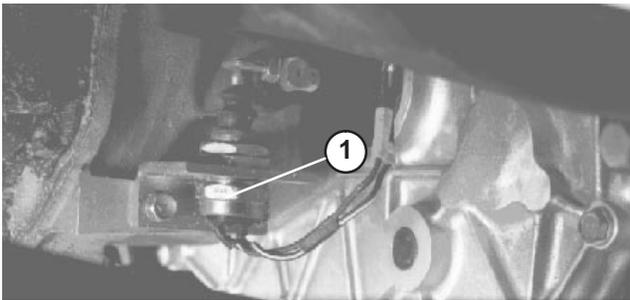

Figure 59
- Recheck clutch safety switch adjustment (Fig. 59). Engine must not crank unless clutch pedal is $1.25'' \pm .12''$ from floor. If an adjustment is required, loosen switch jam nuts and adjust up or down.